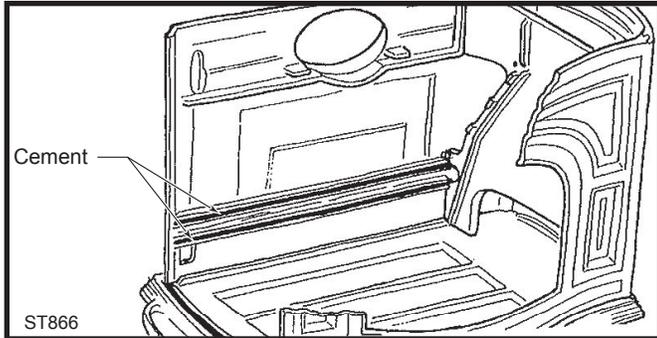
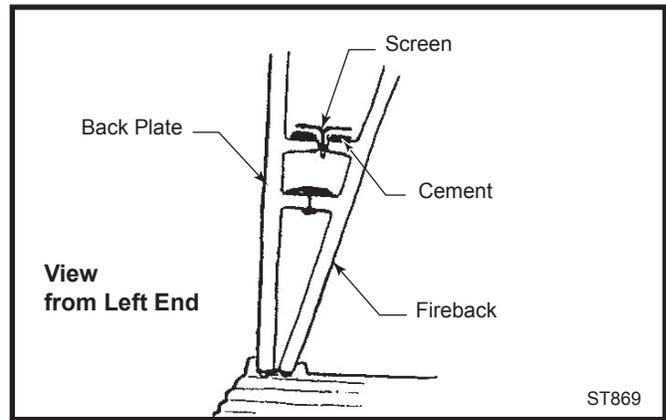

Fig. 8 Cement channels in back plate.
Fig. 11 Placement of screening and cement in secondary air tube.
On the inside of the back plate, there are two (2) ribs which make up half of the secondary air tube. (Fig. 11) *Cement along the top of the upper rib and the front of the lower rib on the back plate. (Fig. 8)*
Lay 24" screen, supplied with materials, on the top rib as shown in Figure 11. Press the screen into the cement so the extension of the "T" fits between the top ribs of the back plate and the fireback. Add more cement to make a tight seal. You can use the putty knife as a paddle to smooth the cement along the top of the secondary air tube. Run the 1/2" x 1" x 36" piece of wood inside the secondary air tube to smooth the layer of furnace cement and clear the channel.